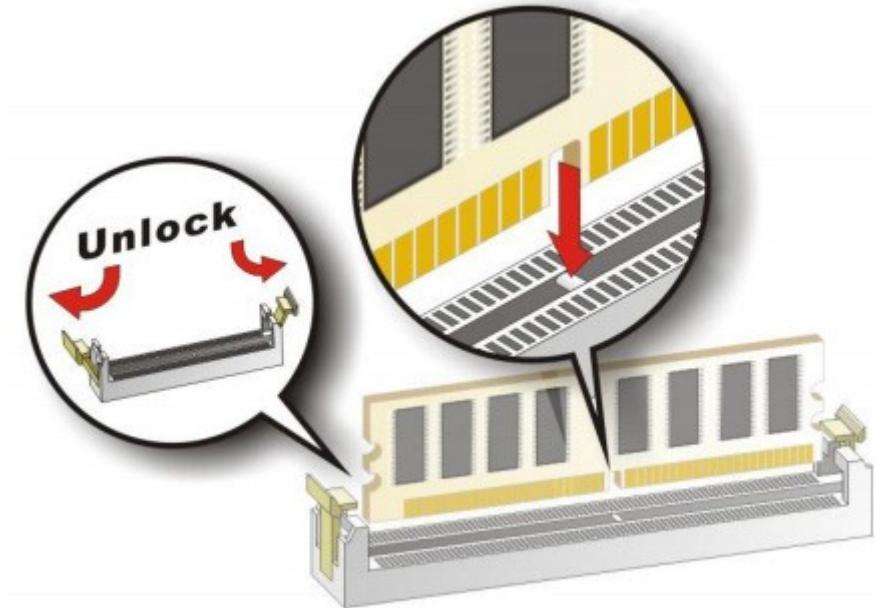

Figure 4-8: DIMM Installation
To install a DIMM, please follow the steps below and refer to **Figure 4-8**.
- Step 1:** **Open the DIMM socket handles.** Open the two handles outwards as far as they can. See **Figure 4-8**.
- Step 2:** **Align the DIMM with the socket.** Align the DIMM so the notch on the memory lines up with the notch on the memory socket. See **Figure 4-8**.
- Step 3:** **Insert the DIMM.** Once aligned, press down until the DIMM is properly seated. Clip the two handles into place. See **Figure 4-8**.